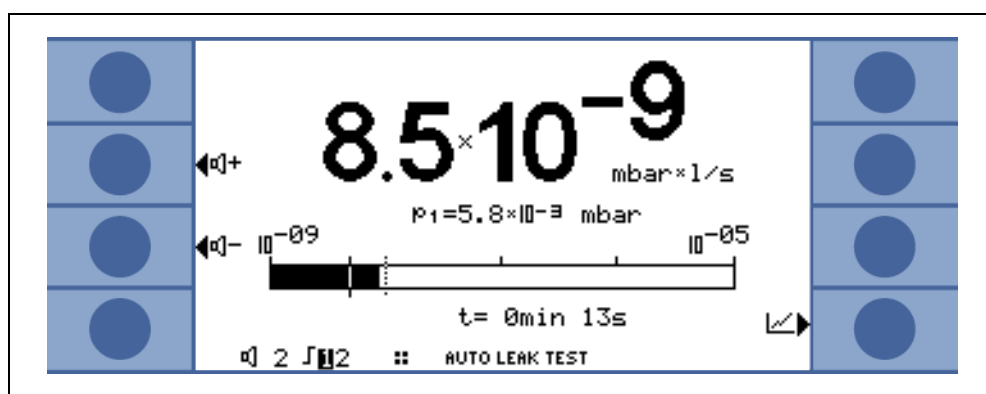

Fig. 5-1: Display, measurement mode
Once the pressure of 15 mbar (11 Torr or 1500 Pa) is reached the unit switches to measurement mode. The corresponding leak rate is displayed. For further explanations of the screen please refer to Fig. 5-1.
- Numerically, combined with a bargraph Fig. 5-1
The display shows the leak rate in big digital figures, see Fig. 5-1. The unit of the leak rate is shown, too. Underneath the leak rate the inlet pressure is displayed in smaller digits. The units of leak rate and pressure can be defined in the menu (See Chapter 6.4.4 Units).